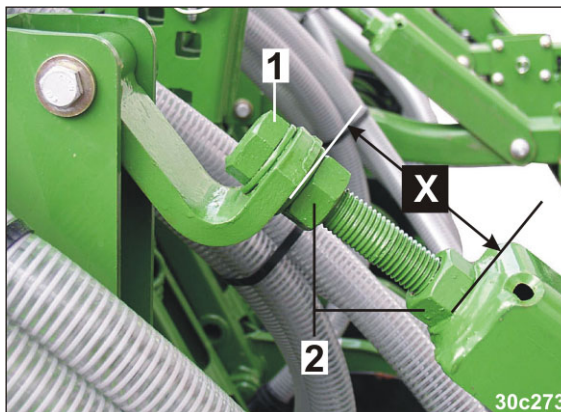

Fig. 141
Adjustment is made by changing the distance "X" (Fig. 141) on all segments with the screw (Fig. 141/1).
3. Release the two lock nuts (Fig. 141/2).
5. Firmly tighten counter nuts (Fig. 141/2).